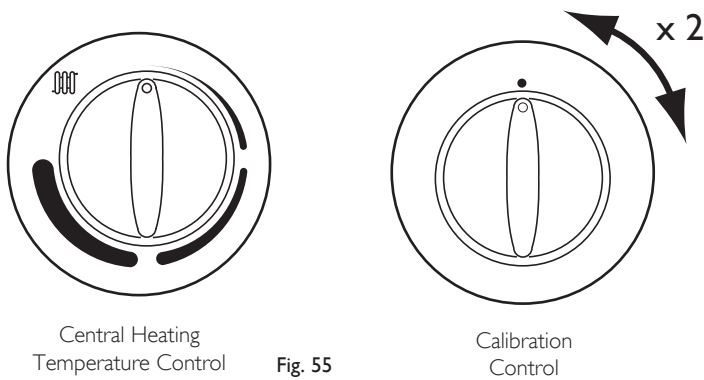

Fig. 55
3. Turn both temperature control knobs fully anticlockwise, then quickly turn the Calibration Control knob  $\frac{1}{4}$  clockwise twice and back fully anticlockwise (Fig. 55).